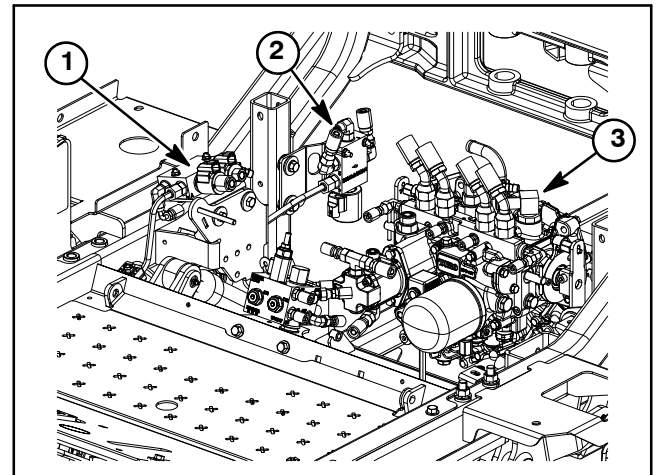

Figure 59
3. Disconnect harness electrical connector from hydraulic solenoid valve coil that is to be tested (Fig. 59).
4. Using a multimeter (ohms setting), measure resistance between the two (2) connector terminals on the solenoid valve coil. The resistance for the solenoid coils is identified below: